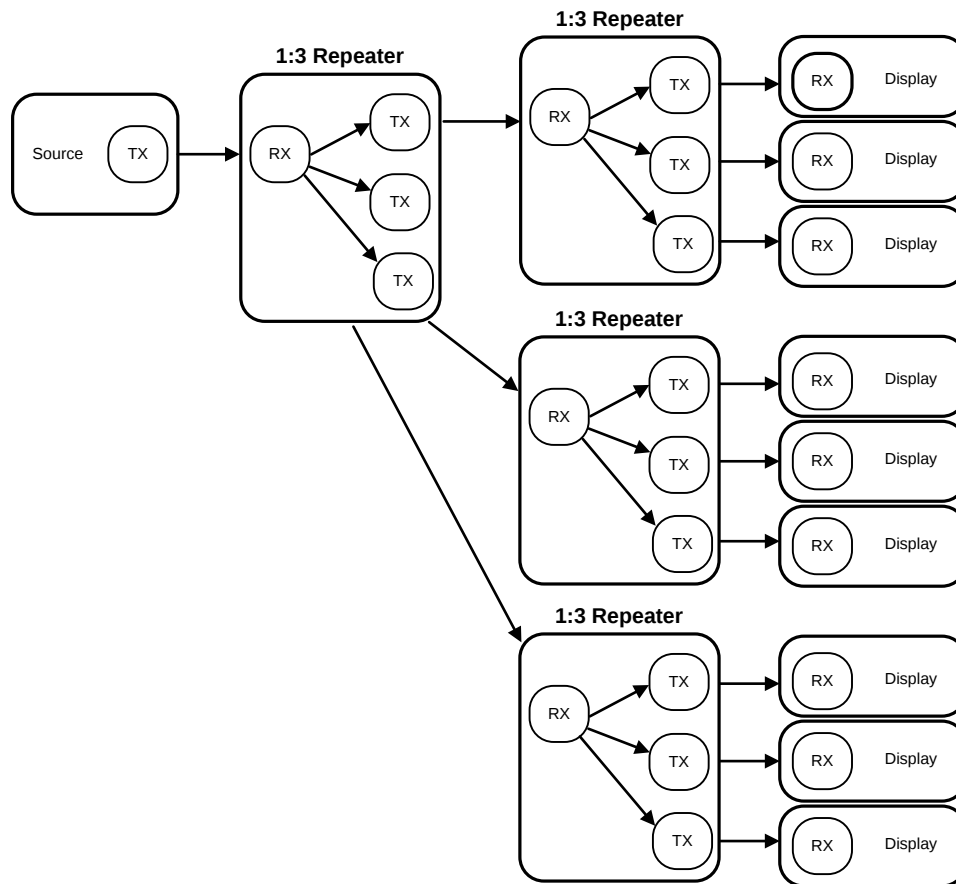

Figure 21. Maximum Repeater Application
In the repeater application, this document refers to the DS90UB927Q-Q1 as the Transmitter (TX), and refers to the DS90UB928Q-Q1 as the Receiver (RX). Figure 21 shows the maximum configuration supported for Repeater implementations using the DS90UB925/7Q-Q1 (TX), and DS90UB926/8Q-Q1 (RX). Two levels of Repeaters are supported with a maximum of three Transmitters per Receiver. To ensure parallel video interface compatibility, repeater nodes should feature either the DS90UB926Q-Q1/DS90UB925Q (RX/TX) chipset or the DS90UB927Q-Q1/DS90UB928Q-Q1 (TX/RX) chipset.